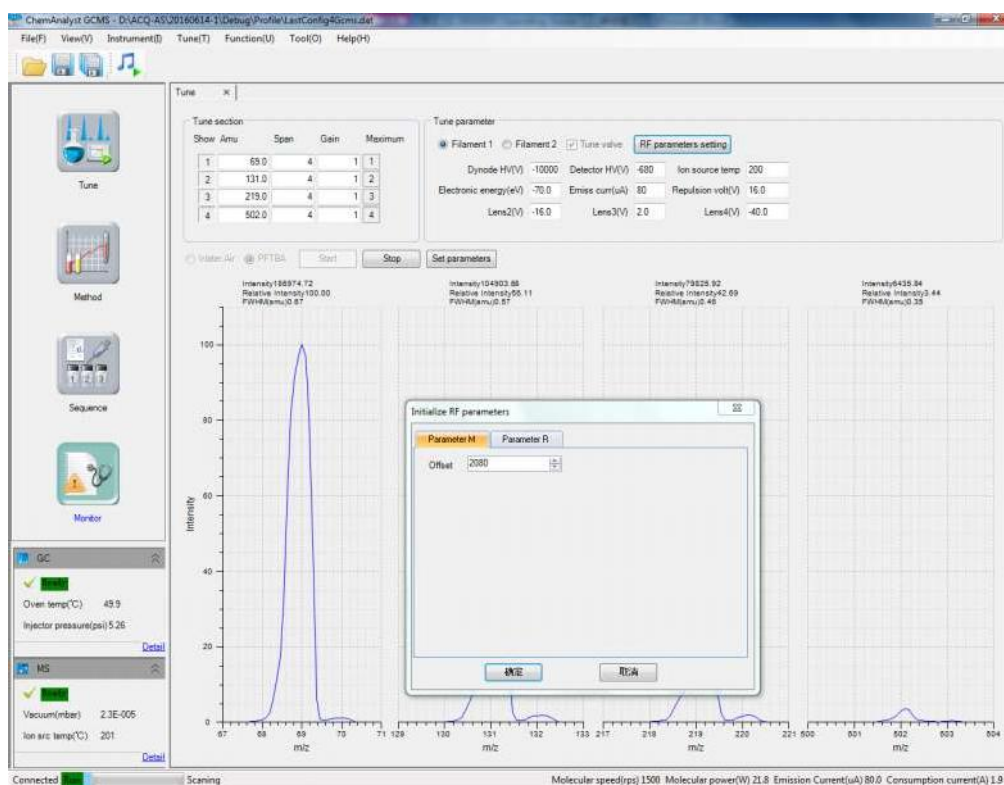

Figure 4-3 RF Parameter Setting Panel
- (1) Click [Initialize RF parameters], as shown in Figure 4-3.
- (2) Click [Parameter M] to set the offset value. The larger the value is, the larger the full width at half maximum (FWHM) of MS peaks is and the worse the resolution is. The smaller the value is, the better the resolution is.
- (3) Click [Parameter R] to set the offset value. This value has a stronger influence on the FWHM of high mass peaks than low mass peaks.
- (4) After setting completed, click [OK] to observe changes in peak shape.